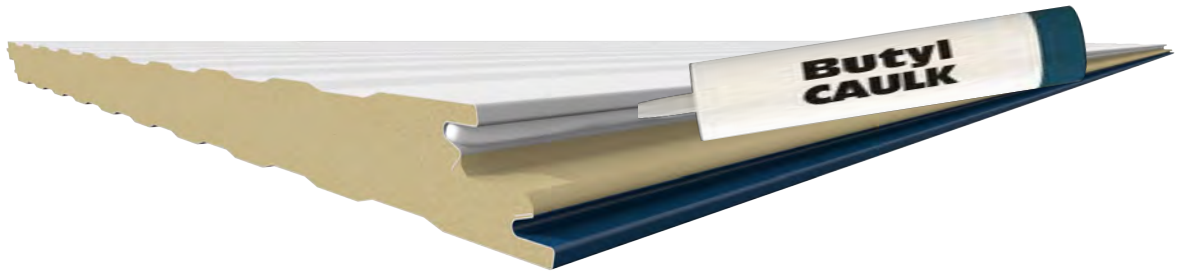

Figure 8.2
8.2 Apply continuous non-curing (non-skinning) butyl sealant to the interior panel joint with a bead size of approximately $\frac{1}{4}$ " as shown in figure 8.2. Sealant should provide continuous seal between the tongue and groove, but not overflow onto panel faces.